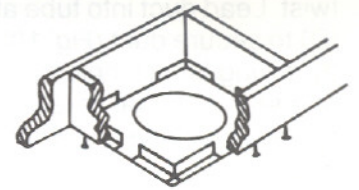

FIG. 6
4. **FIRESTOP SPACER** is installed next, as shown in Fig. 6, for all openings not at attic level; as shown in Fig. 7 for opening leading to an attic. Nail through flanges into joists. Do not pack insulation into areas between Firestop Spacer and joists. **OFFSET NOTE:** When hanger straps of Offset Return interfere with normal "upward" installation, install Firestop Spacer "downward" (Fig. 7).